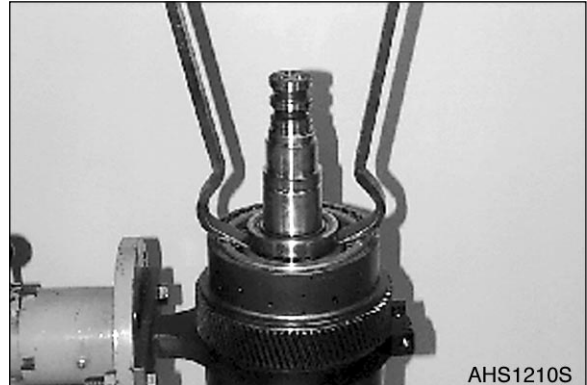
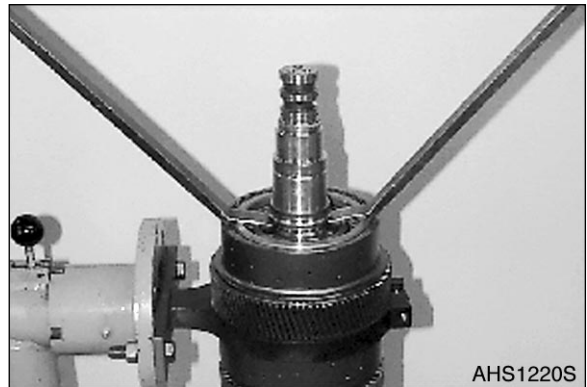

Figure 162
Figure 163
<p>If the disassembly of the plate pack-side ball bearing (Arrow, resp. Figure 162 and Figure 163) is necessary, the complete bearing (1) must be replaced.</p>
9. Pull ball bearing from plate carrier (Figure 162 and Figure 164).